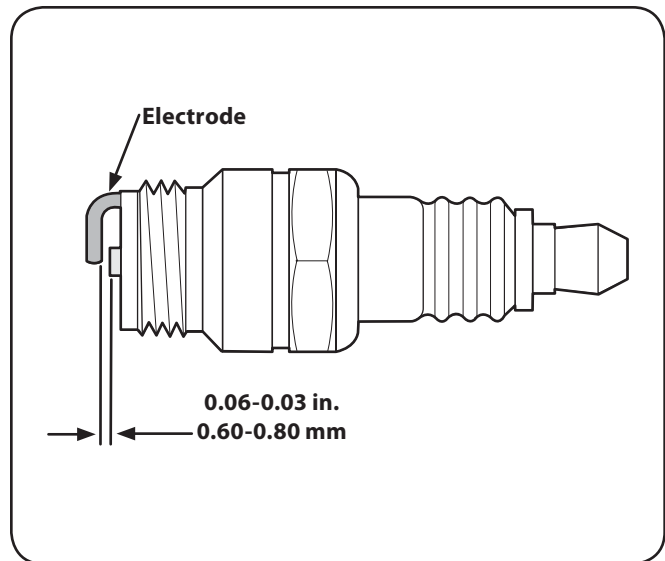

Figure 6-4
6. Measure the plug gap with a feeler gauge. Correct as necessary by bending side electrode. See Fig. 6-4. The gap should be set to 0.030 in. (0.76mm).